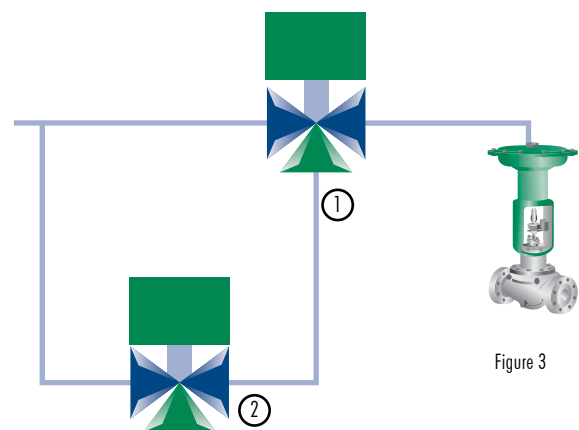

Figure 3
ASCO has a *specific 2oo2 configuration*, in which two solenoid valves are connected in parallel. One outlet port (2) however, is connected to the release port (1) of the other, see figure 3. This provides the same *availability*, but increases the *reliability* or integrity of the final element.